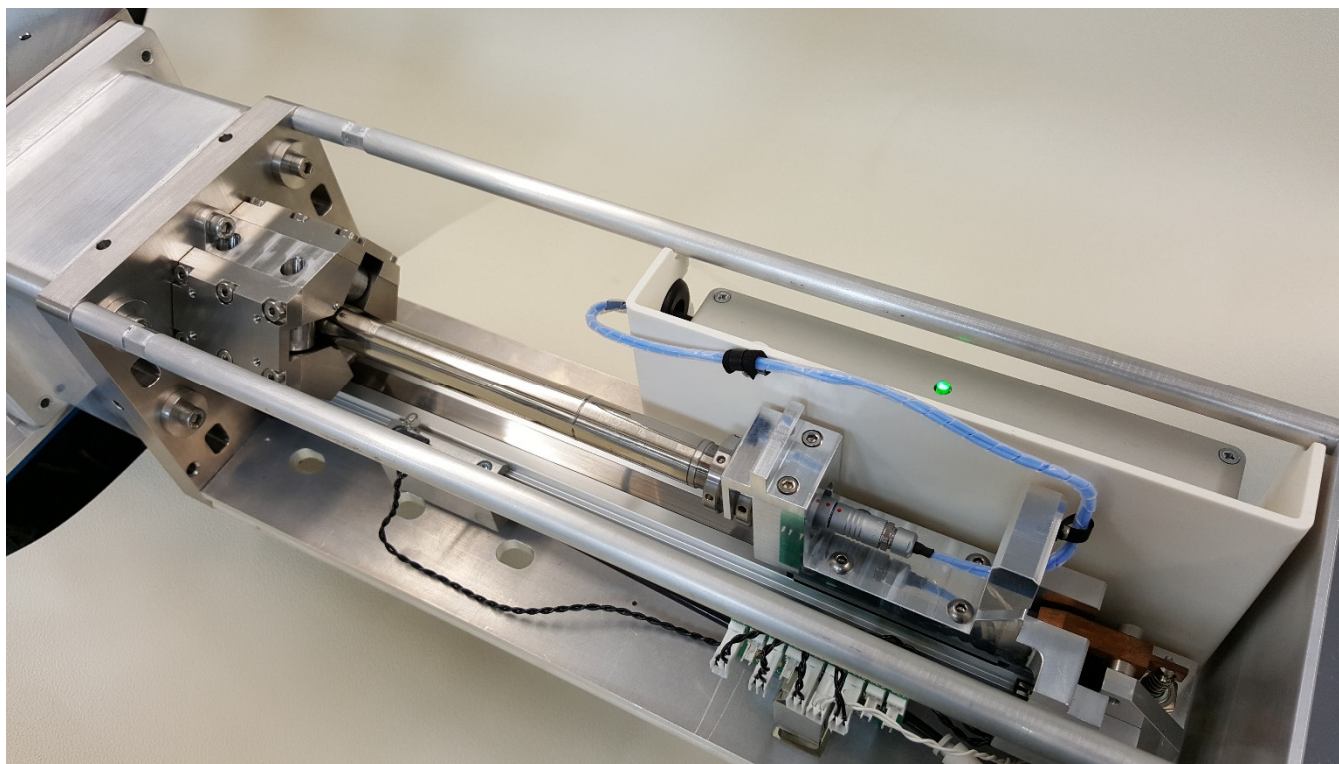

Figure 3: OnPoint detector with the cover removed, showing the retraction mechanism (part A), and the amplifier (part B), and the latch (part C).
The retraction mechanism is held in the fully retracted position using a catching latch (Figure 3: Part C), which is lifted by a solenoid during insertion. If the user wishes to manually insert the detector by an arbitrary amount (for example to gain easier access to the BSED), this is possible using the following procedure:
- 2 Take any force off the latch by pulling back on the sled (Figure 3: Part A)
- 3 Depress the rear of the latch by hand (Figure 3: Part C)
The signal from the BSED is routed through the retraction mechanism and plugs into the amplifier via a Fischer type connector. This transimpedance amplifier (Figure 3: Part B) has been optimized to provide both high gain ($\sim 1 \times 10^9$) and high speed (~ 2 MHz) – two features that are generally in conflict during amplifier design. It converts the current generated by the backscattered electrons into a voltage that is read by the DigiScan™ II.